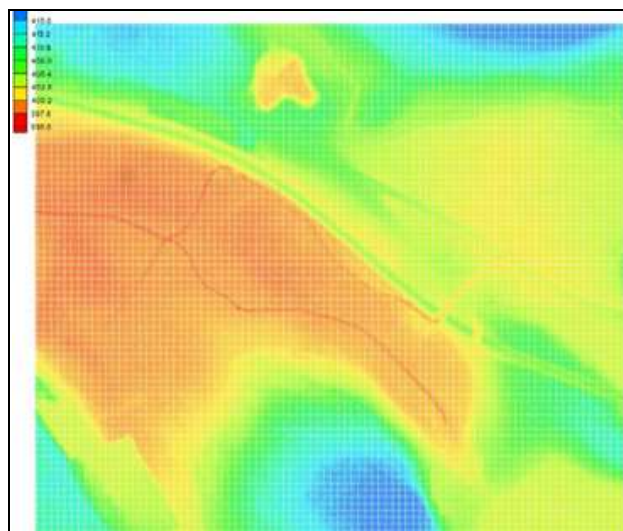

Figure 15 Scatter set for raster data
6. 561000 points in this dataset. (Figure 15)
7. Repeat steps 1-4 to read in the “Raster-in.xyz” file again but this time with filtering. Users will compare the two resulting scatter sets to understand the differences made by filtering. The data will be loaded as “Raster-in (2)”
10. Click the **Finish** button. SMS will create the second scattered dataset. Its display will appear almost identical to the other one. (Figure 15)